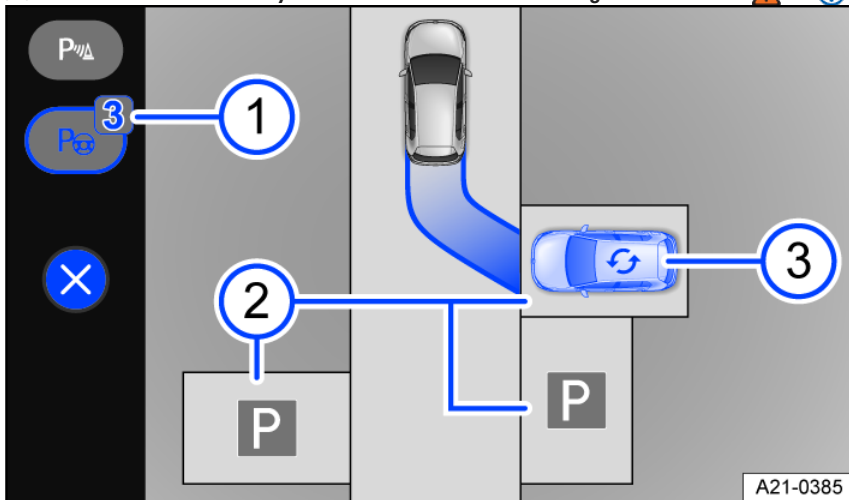

Fig. 102 Infotainment system: selecting a parking space (general example).
Park Assist Plus will automatically select a parking space and display it as the preferred parking space (blue vehicle) in the Infotainment system fig. 102 ② and ③.
The number of detected parking spaces is displayed on the  function key fig. 102 ①.
1. Tap the desired parking space on the Infotainment system screen *fig. 102* .
If the parking scenario shown in the Infotainment system can be changed, the  symbol will be displayed above the parking space *fig. 102* .